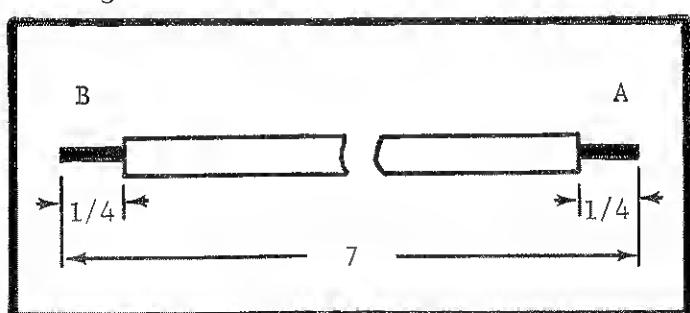
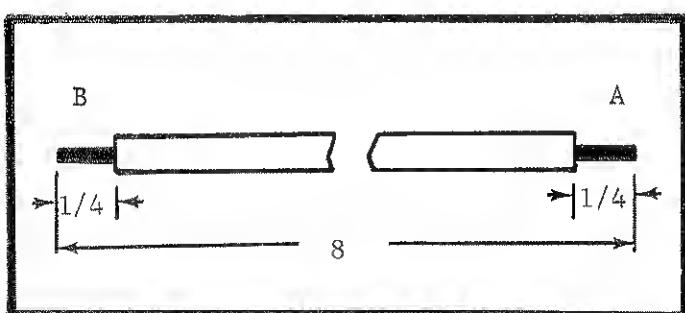

FIGURE 6. Dimensions for Cable #3 for Voltage Programming. Dimensions are in inches.
FIGURE 7. Dimensions for Cable #4 for Voltage Programming. Dimensions are in inches.
- Prepare the 7-inch cable #3 as shown in Figure 6 and the 8-inch cable #4 as shown in Figure 7.